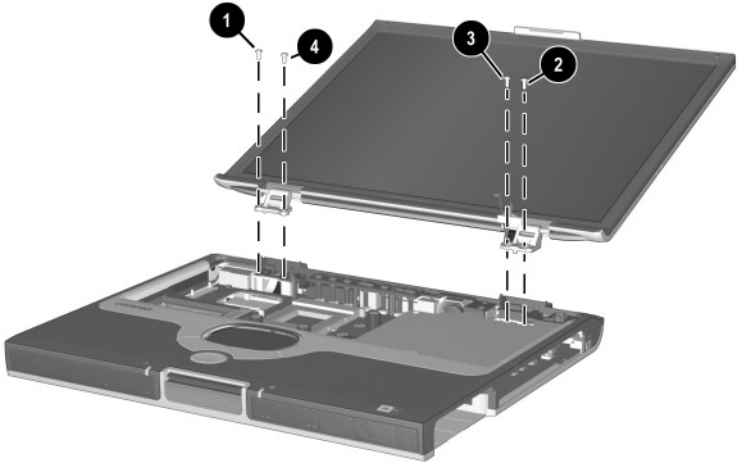

Figure 5-28. Installing the Display Screws
When installing the display, install the screws in the ①, ②, ③, ④ sequence shown in the Figure 5-28.